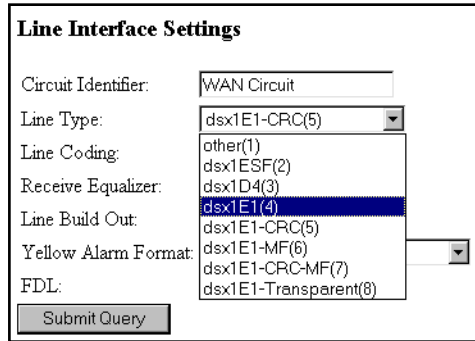

Figure 38. Line Type pull-down menu
1. From the *Line Type* pull-down menu (figure 38) select *dsx1E1(4)* or *dsx1E1-CRC(5)*.